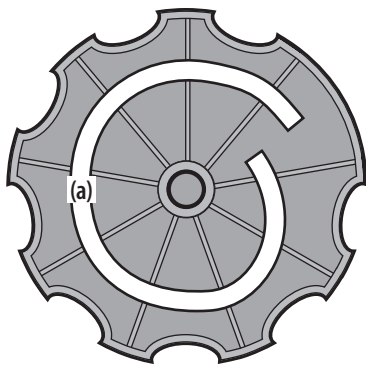

Figure 13
9. Then align the spiral (a) on the inside of the recliner knob with the recliner pin. Make sure the hub on the back of the recliner sits properly into the large holes of the side plate. See Figure 13.